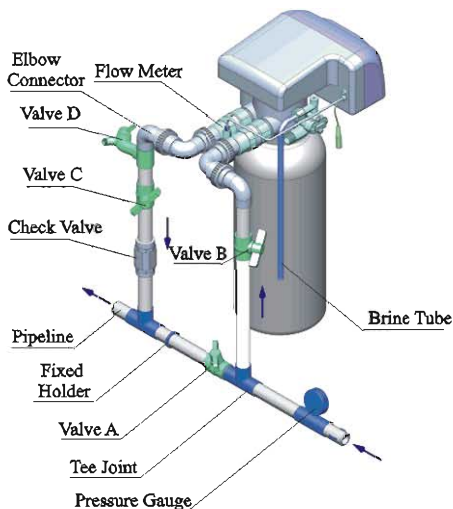

Figure1-3
④ Pipeline connection
- As Figure1-3 shows, install a pressure gauge in water inlet.